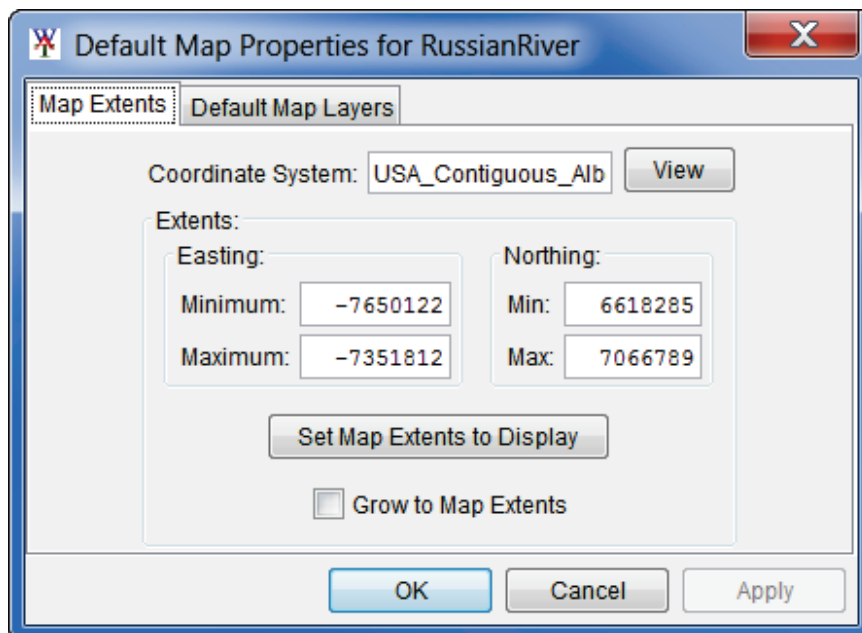

Figure 20.5 Default Map Properties for Dialog Box
2. The user can adjust the view of the study area in the active map window. Using the **Magnifier** tool, zoom the study area in the active map window to the appropriate area that the user would like displayed. From the HEC-WAT main window (Figure 20.3), from the **Maps** menu, click **Default Map Properties**, the **Default Map Properties for** dialog box will open (Figure 20.5). Click **Set Map Extents to Display**, click **OK**. The **Default Map Properties for** dialog box will close.